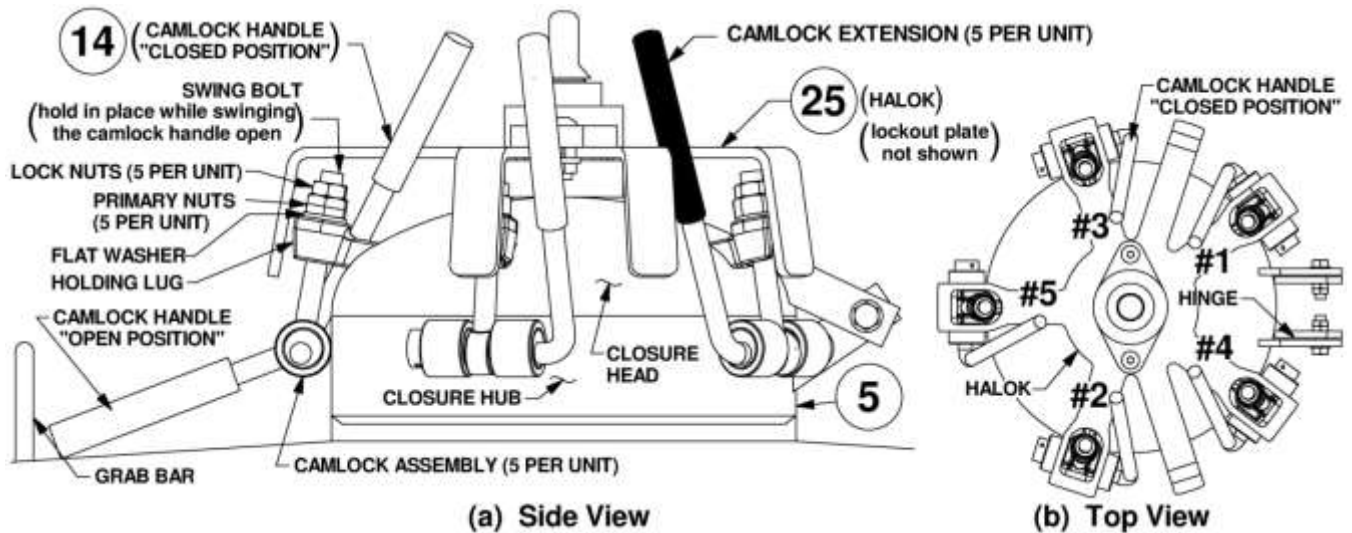

Figure 6.3.1 – Bulk Abrasive Blaster Closure Assembly
6.3.3. In the numbered sequence shown in Figure 6.3.1(b), swing each of the camlock handles (#14) of the closure (#5) into the “open position.” DO NOT swing any swing bolts out of the holding lugs. Hold the swing bolt within the holding lug with one hand and swing each camlock handle down with the other hand. Note: The Halok® Assembly (#25) prevents the swing bolts from swinging out of the holding lugs until all camlock handles are in “open” position. See Figure 6.3.1.